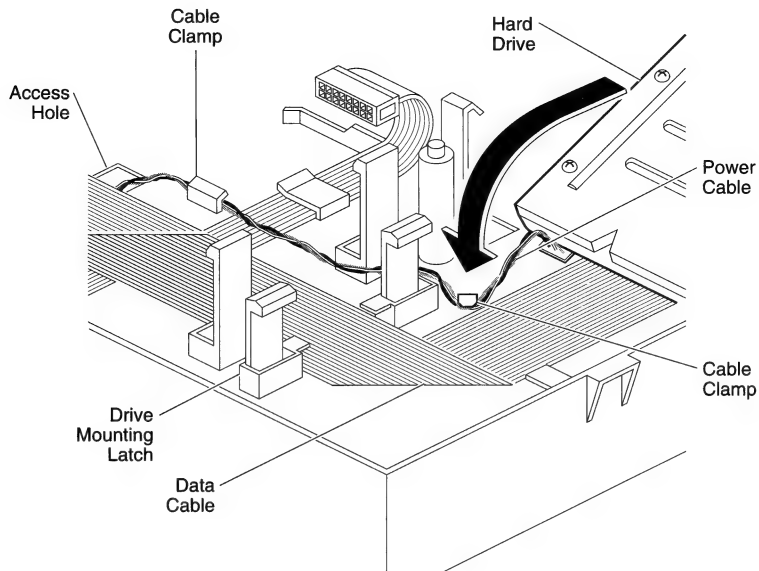

Figure 4 Hard Drive Installation
2. Position the hard drive adjacent to the hard drive bay on the underside of the subassembly. Route the hard drive data and power cables as shown in Figure 4. Hook the cables beneath the cable clamps and push the cable connectors through the subassembly access hole.